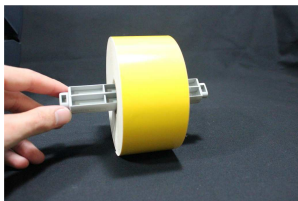

Figure 2
Step 2: Select a roll of vinyl material and place the plastic supply holder through the core. If your printer included "wings" you may use them to center the roll, but they are only necessary with 1" material. Your roll of vinyl material should now resemble Figure 2.